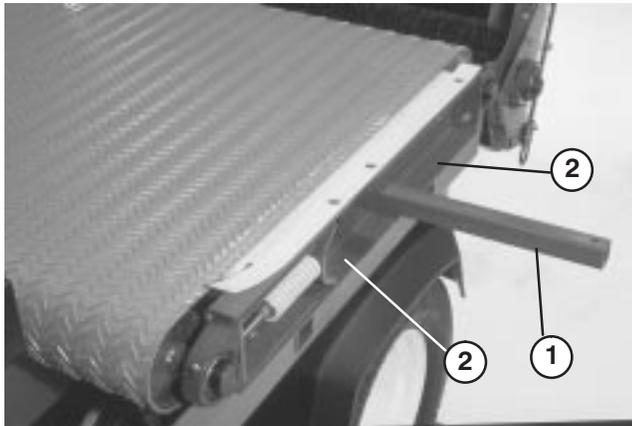

Figure 28
7. Remove (2) capscrews, washers and nut, on left side of machine, securing slider bed to frame (Fig. 28).
- A. Insert a lift bar into hole on left side of machine and raise lift bar to tip slider bed (Fig. 28).